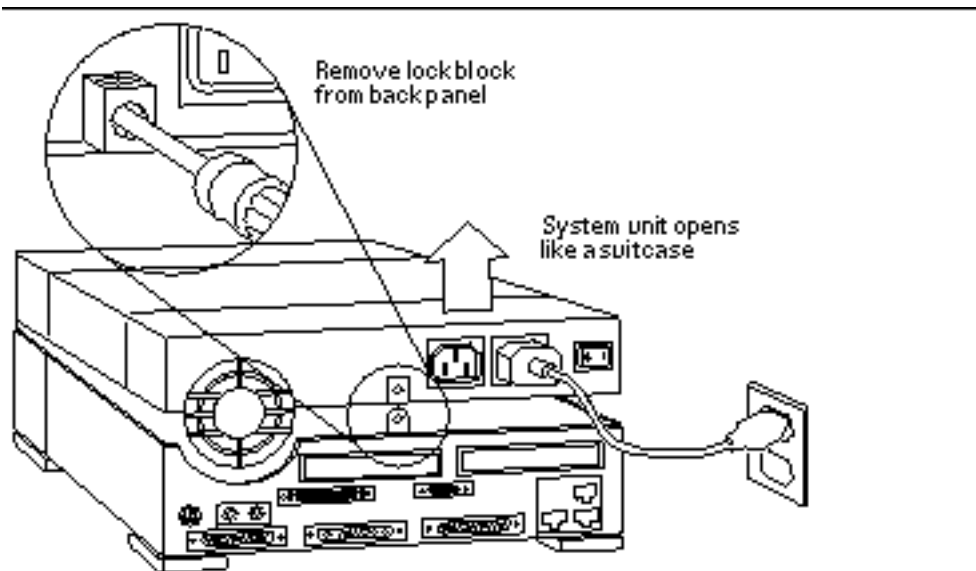

Figure 7-1 Opening the System Unit
**3. Remove the screw that secures the lock block to the back panel (see Figure 7-1).**
**4. Grasp the unit top at its rear corners and carefully open the system unit like a suitcase (see Figure 7-1).**